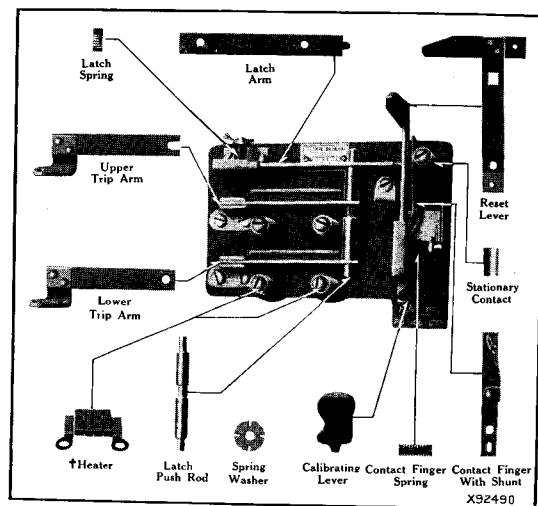

Fig. 3—Type TA Thermal Relay Renewal Parts
1. Name the part, using the name shown on the illustration in Fig. 3 and state quantity desired.